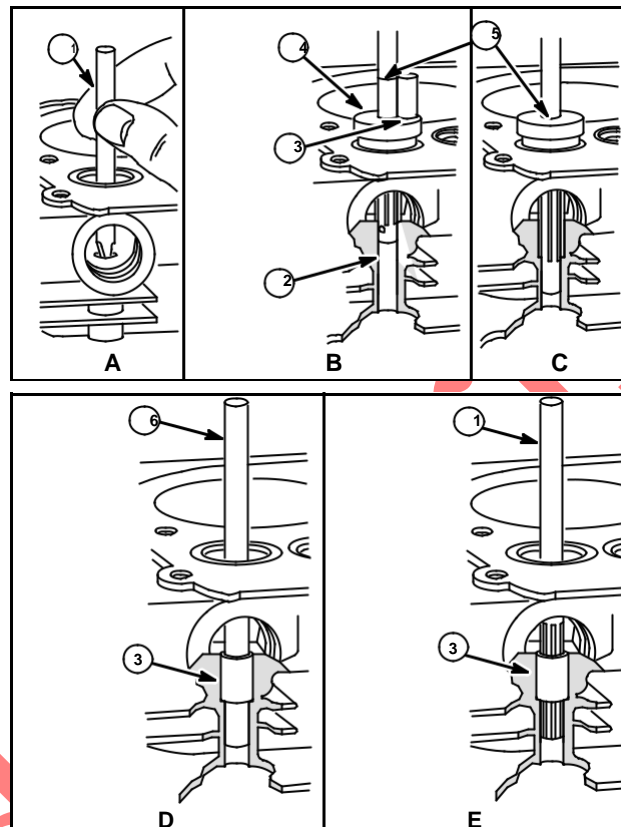

Fig. 10
If flat end of Valve Guide Plug Gauge, Tool #19122 (1), can be inserted into valve guide a distance of 5/16" (7.92 mm), Fig. 10, A, the valve guide is worn and should be rebushed.
1. Place pilot of Tool #19064, Counterbore Reamer (2), in valve guide.
2. Slide Tool #19191, Pilot Bushing (4), down over reamer until bushing rests on valve seat.
3. Hold a replacement guide bushing (3), Part #63709, on top of pilot bushing and mark reamer 1/16" (1.57 mm) above it (5), Fig. 10, Illus. B.
5. After counterboring guide, continue to turn reamer in same direction while withdrawing it, Fig. 10, Illus. C.
7. Press bushing with Tool #19367, Valve Guide Bushing Driver (6), until bushing is flush with top of guide, Fig. 10, Illus. D.
8. Finish ream bushing through to breather chamber with Tool #19066, Finish Reamer, using kerosene or equivalent to lubricate reamer, Fig. 10, Illus. E.